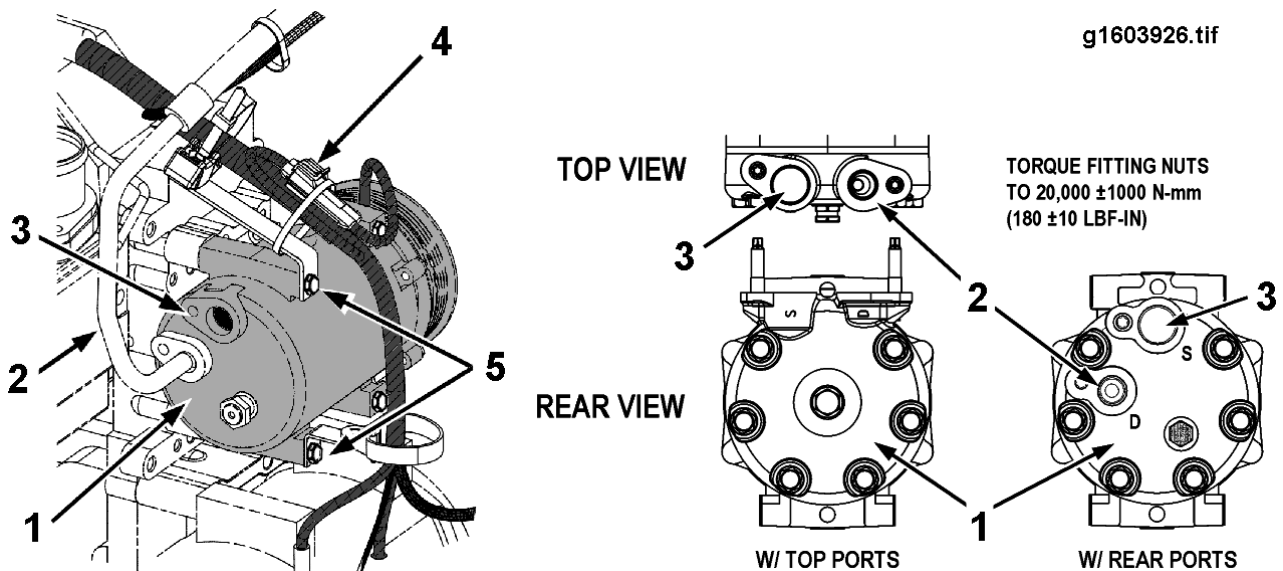

Figure 26 A/C Compressor (Typical Installation)
NOTE – Refer to Figure 26 while performing the following Remove and Install procedures.
3. Disconnect compressor clutch wiring connector (4, Figure 26) from engine wire harness.